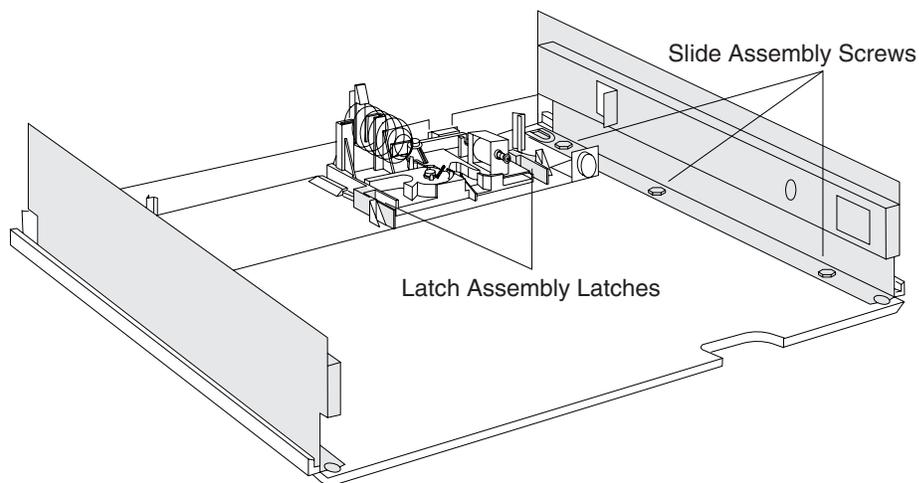

Figure 2-8. Removing and Replacing the Slide Assembly
- 4 Remove the 3 screws that secure the slide to the base and lift the slide assembly out. See Figure 2-8 on page 2-13.
- 4** Reach in from the front and push the latch on each side of the latch assembly inward while pulling the assembly toward the front. See Figure 2-8.